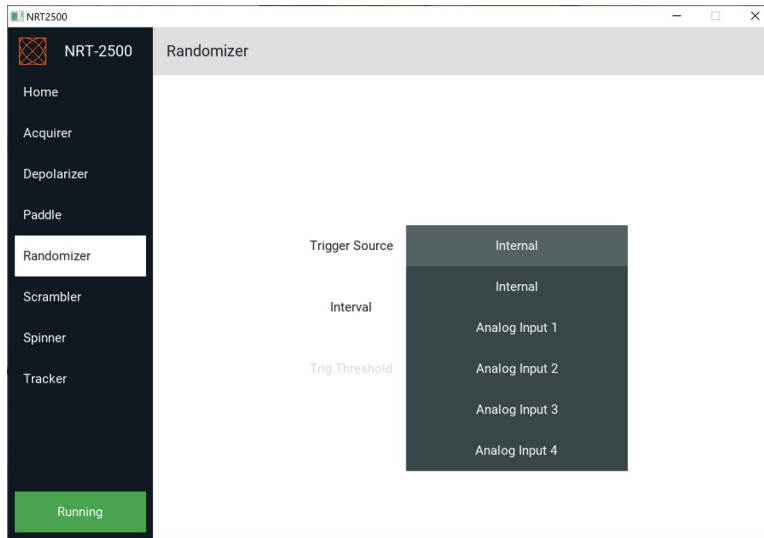

Figure 39: Randomizer Mode - Press on the Trigger Source button to select the internal/external trigger source from the scroll down list.
2. External Trigger – An SOP change will occur every time the signal on the analog input, selected in the *Trigger Source*, crosses the *Threshold* value set by the user (see Figures 39 - 40).